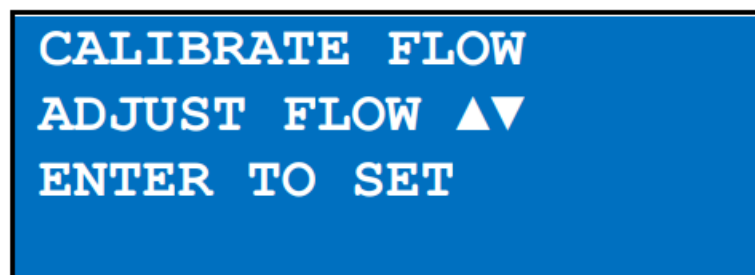

Figure 20 – Calibrate Flow
3. Afterwards, use the up and down arrow keys to adjust the flow until the reference flow meter reads within tolerance. You will need to wait a few seconds after each adjustment for the flow system and the reference meter to stabilize. Figure 20 shows an example of the Calibrate Flow Screen.